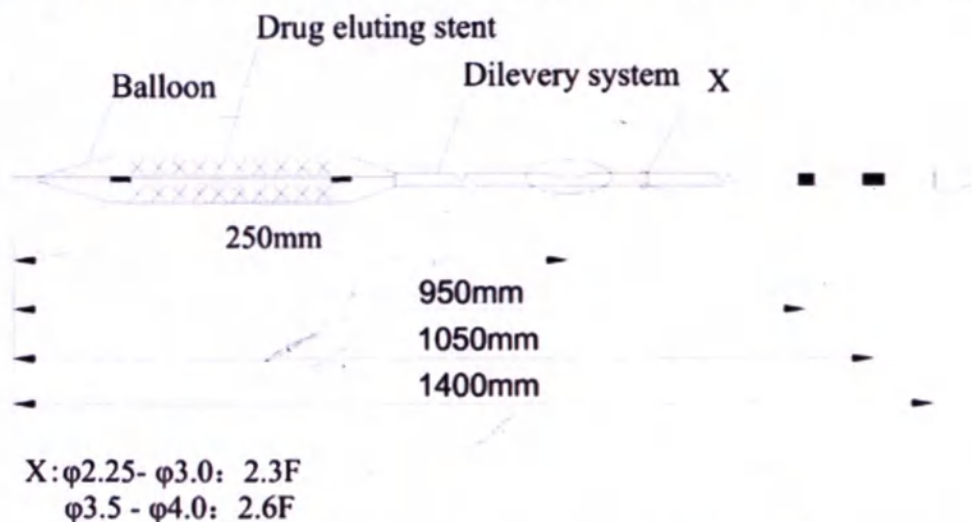
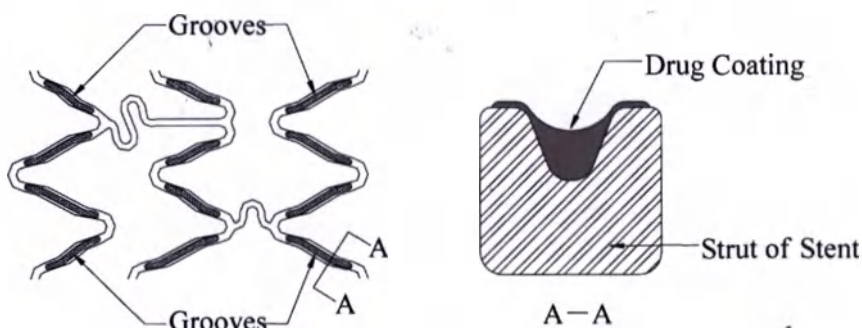

Fig. 1.1 The Schematic diagram of Firehawk Liberty™ RTECSS
Fig. 1.2 Construction of Groove loaded drug product
- Drug/Polymer Coating:** a formulation of rapamycin in a biodegradable polymer coating which filled in grooves that located on outside surface of stent struts (Fig. 1.1 and Fig. 1.2).
Drug Coating	An abluminal coating of poly(lactic acid) loaded with Rapamycin, Fig. 1.2